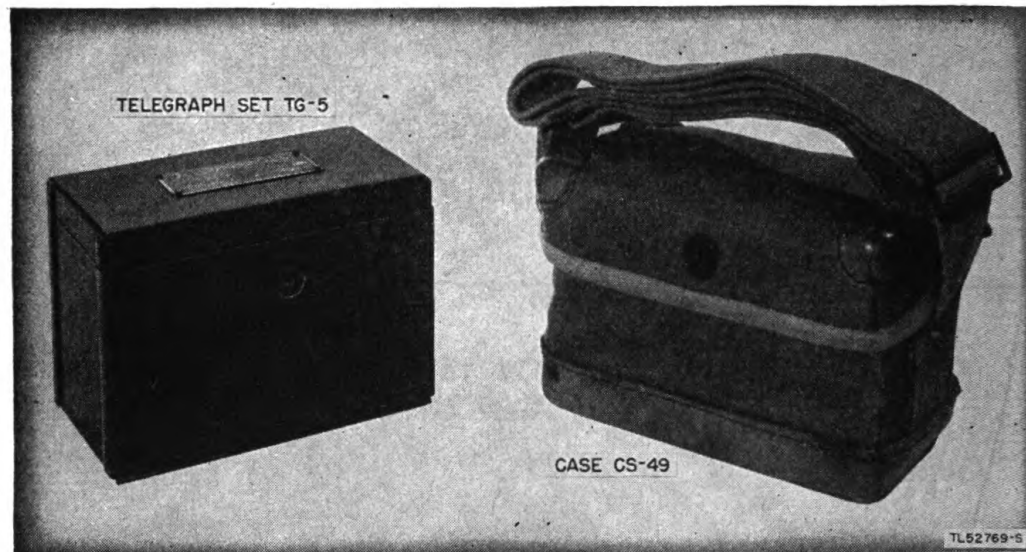

Figure 2. Telegraph Set TG-5 and Case CS-49.
a. **CASE CS-49-(*)** (fig. 2). The case is made of heavy olive-drab canvas with leather reinforced bottom and corners. The cover is hinged at the back, overlaps the sides and front, and fastens in front with a snap fastener. Sewed to the sides of the case is an adjustable carrying strap approximately 2 inches wide and 85 inches long.